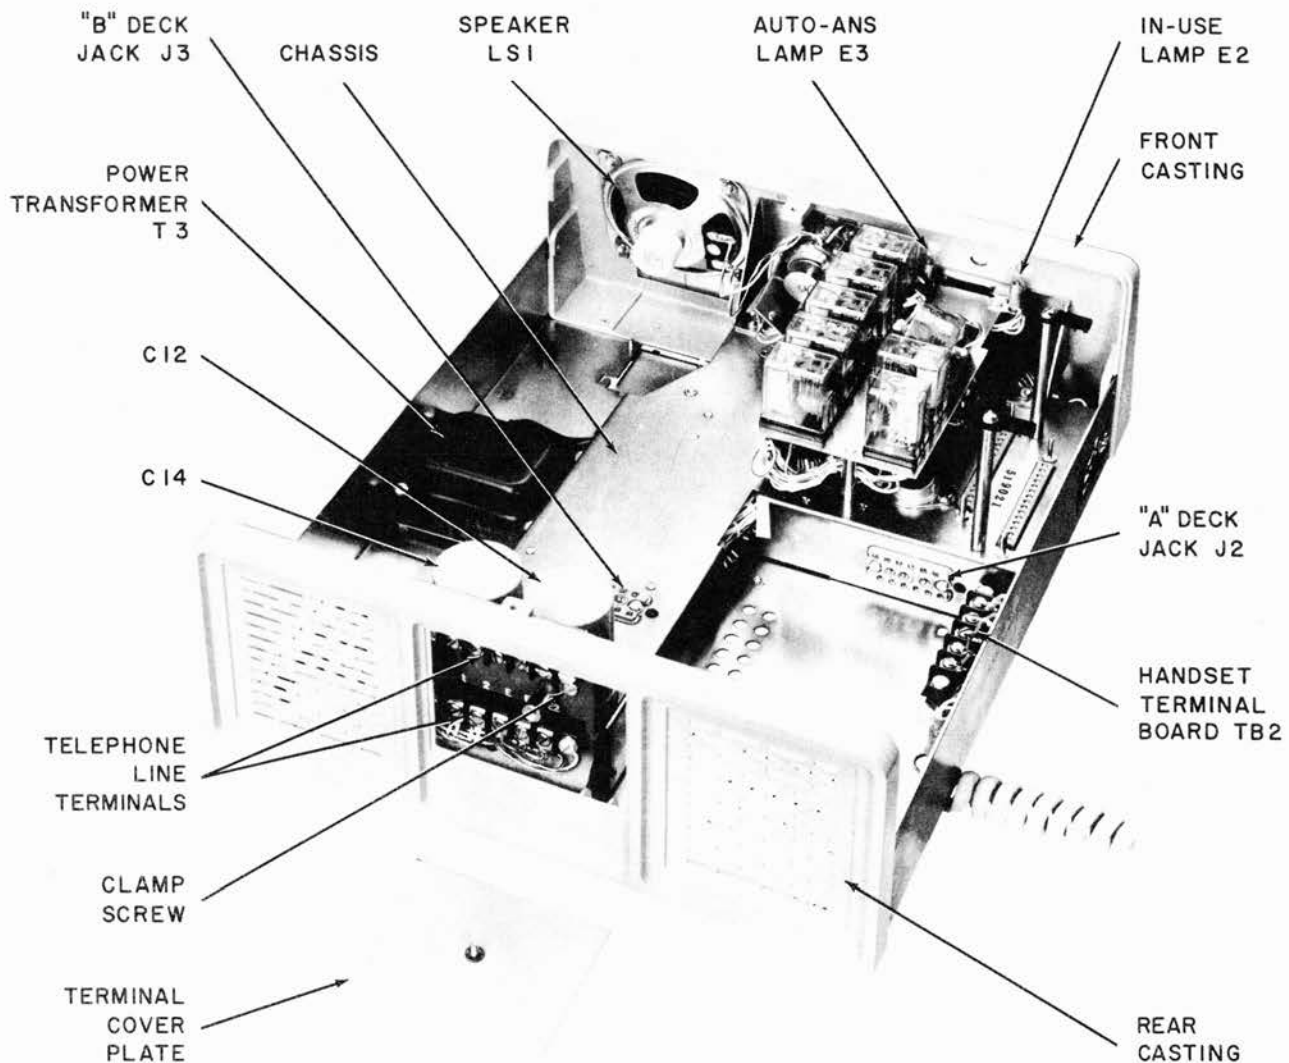
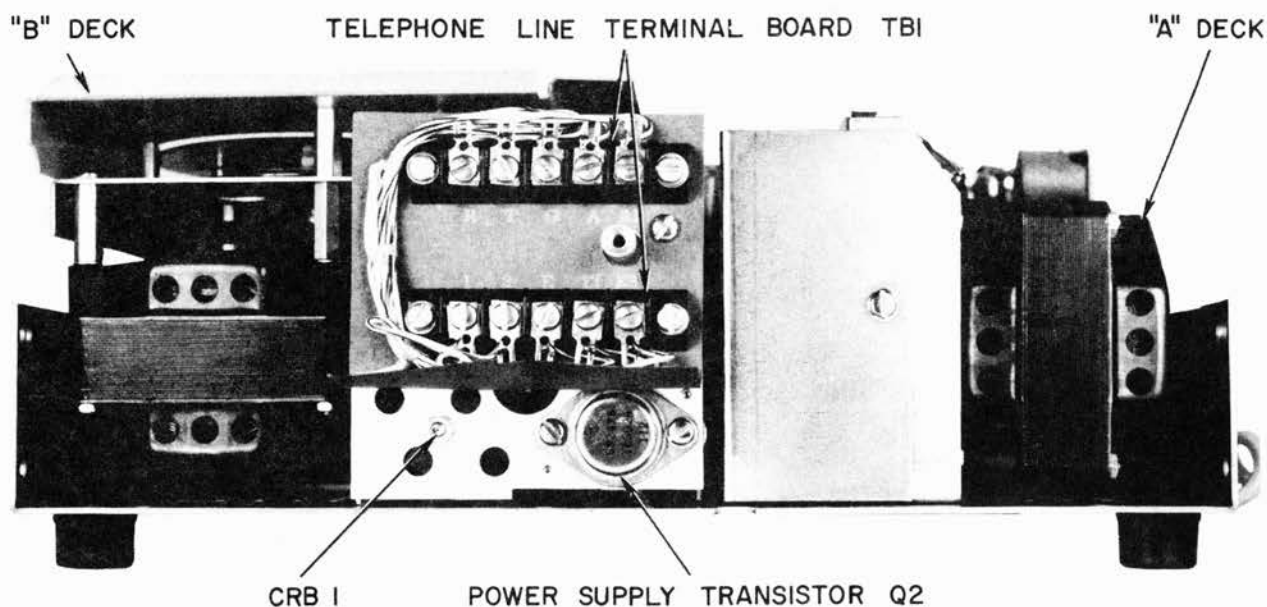

FIGURE 11 MODEL 700 TOP VIEW, TAPE DECKS, AMPLIFIER, AND VOICE CONTROL REMOVED
FIGURE 13 MODEL 700 REAR VIEW, COVER AND REAR CASTING REMOVED
7. POWER SUPPLY TRANSISTOR Q2 (fig. 13):
- c. Loosen one screw and remove Terminal Cover Plate (fig. 11).
- d. Remove 5 screws and Rear Casting (fig. 11). The Model 700 should appear as shown in fig. 13.
8. IN-USE AND AUTO-ANS LAMPS (fig. 11):
10. CHASSIS (fig. 11):
- e. Loosen one screw and remove Terminal Cover Plate (fig. 11).
- f. Unsolder two speaker leads at Speaker (fig. 11).
- i. Remove 4 screws and Front Casting (fig. 11).